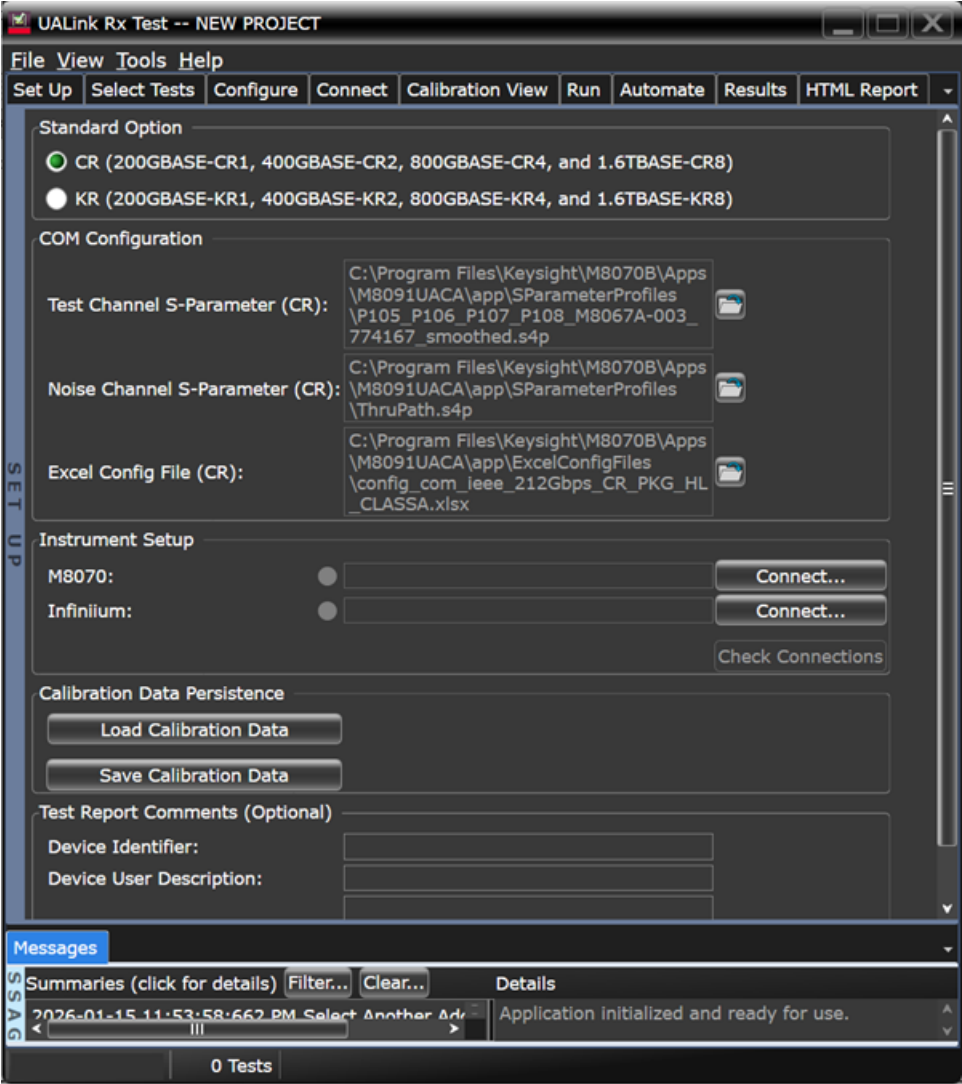

Figure 10 Default view of the UALink Rx Test App
- The UALink Rx Test Application appears with the **Set Up** tab as default (Figure 10).